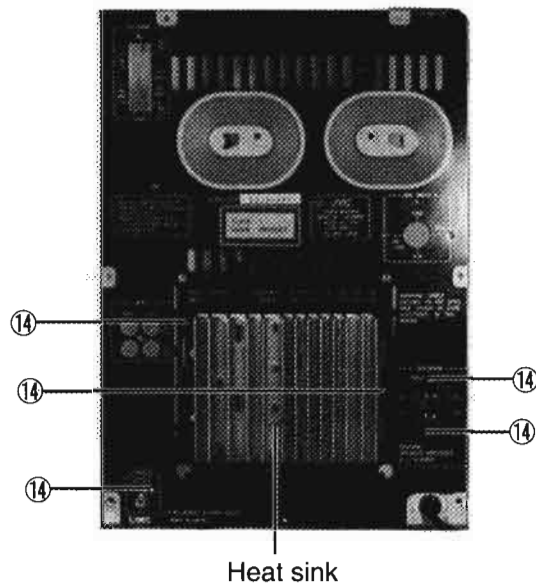

Fig. 12
7. Remove the five screws ⑭ fastening the power amplifier board assembly to the back side of the main board assembly. (See Fig. 12)